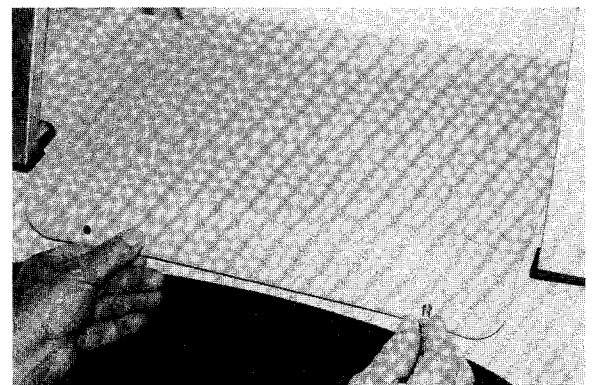

Figure 5-24
1. Remove access panel from body (Figure 5-24).